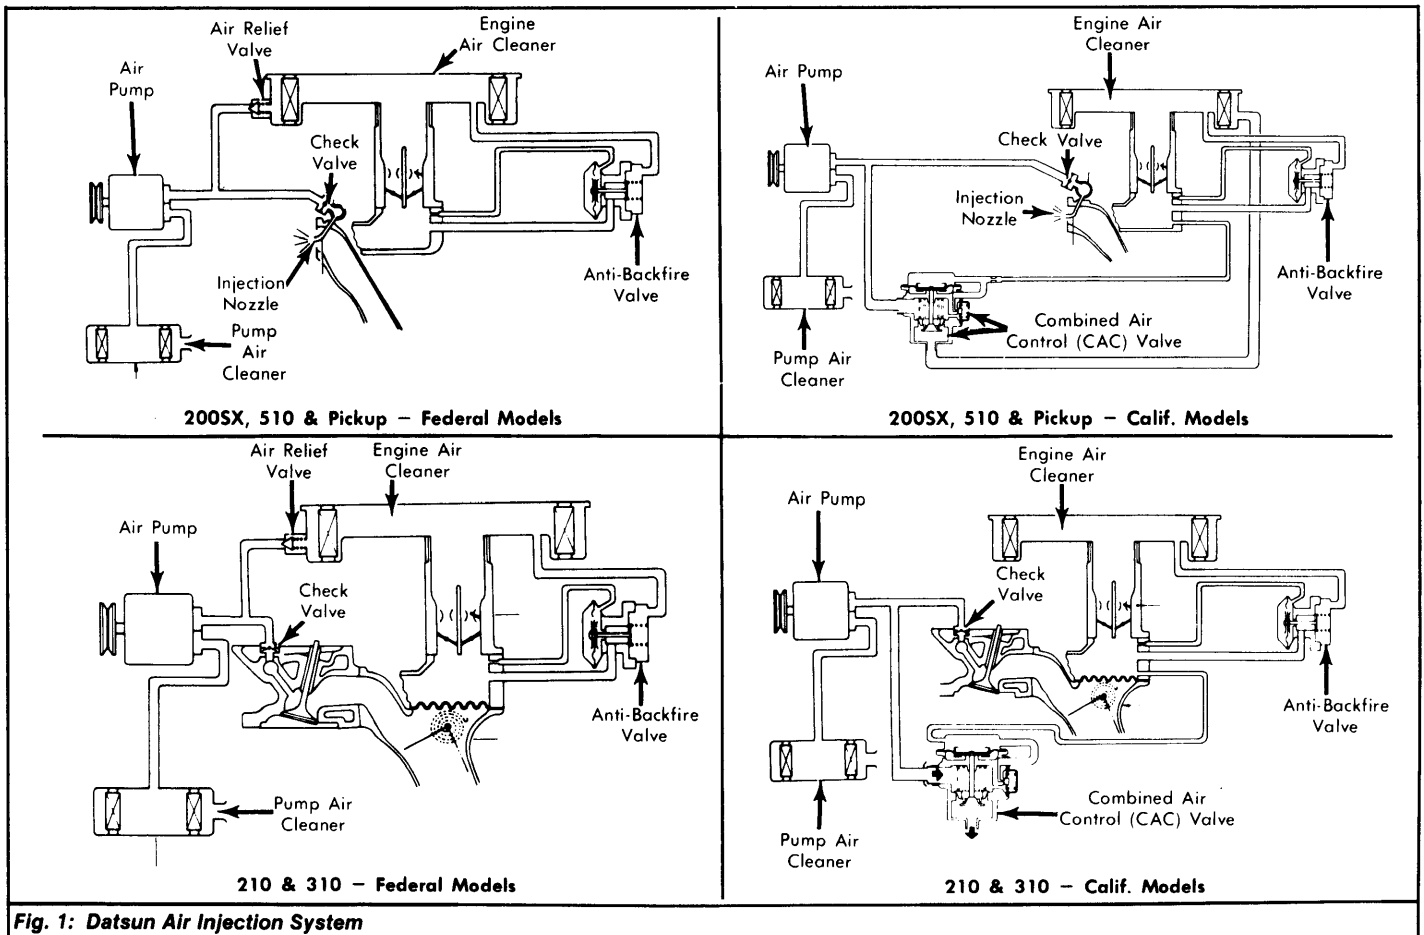

Fig. 1: Datsun Air Injection System
The air injection system is designed to reduce the hydrocarbon (HC) and carbon monoxide (CO) content of exhaust gases by injecting a controlled amount of compressed air into the exhaust gas stream as it leaves the combustion chamber. See Fig. 1. The system consists of a belt-driven air pump, air pump air cleaner, a check valve, various connecting hoses and pipes, and either a combined air control valve (Calif. models) or an air pump relief valve (Federal models).